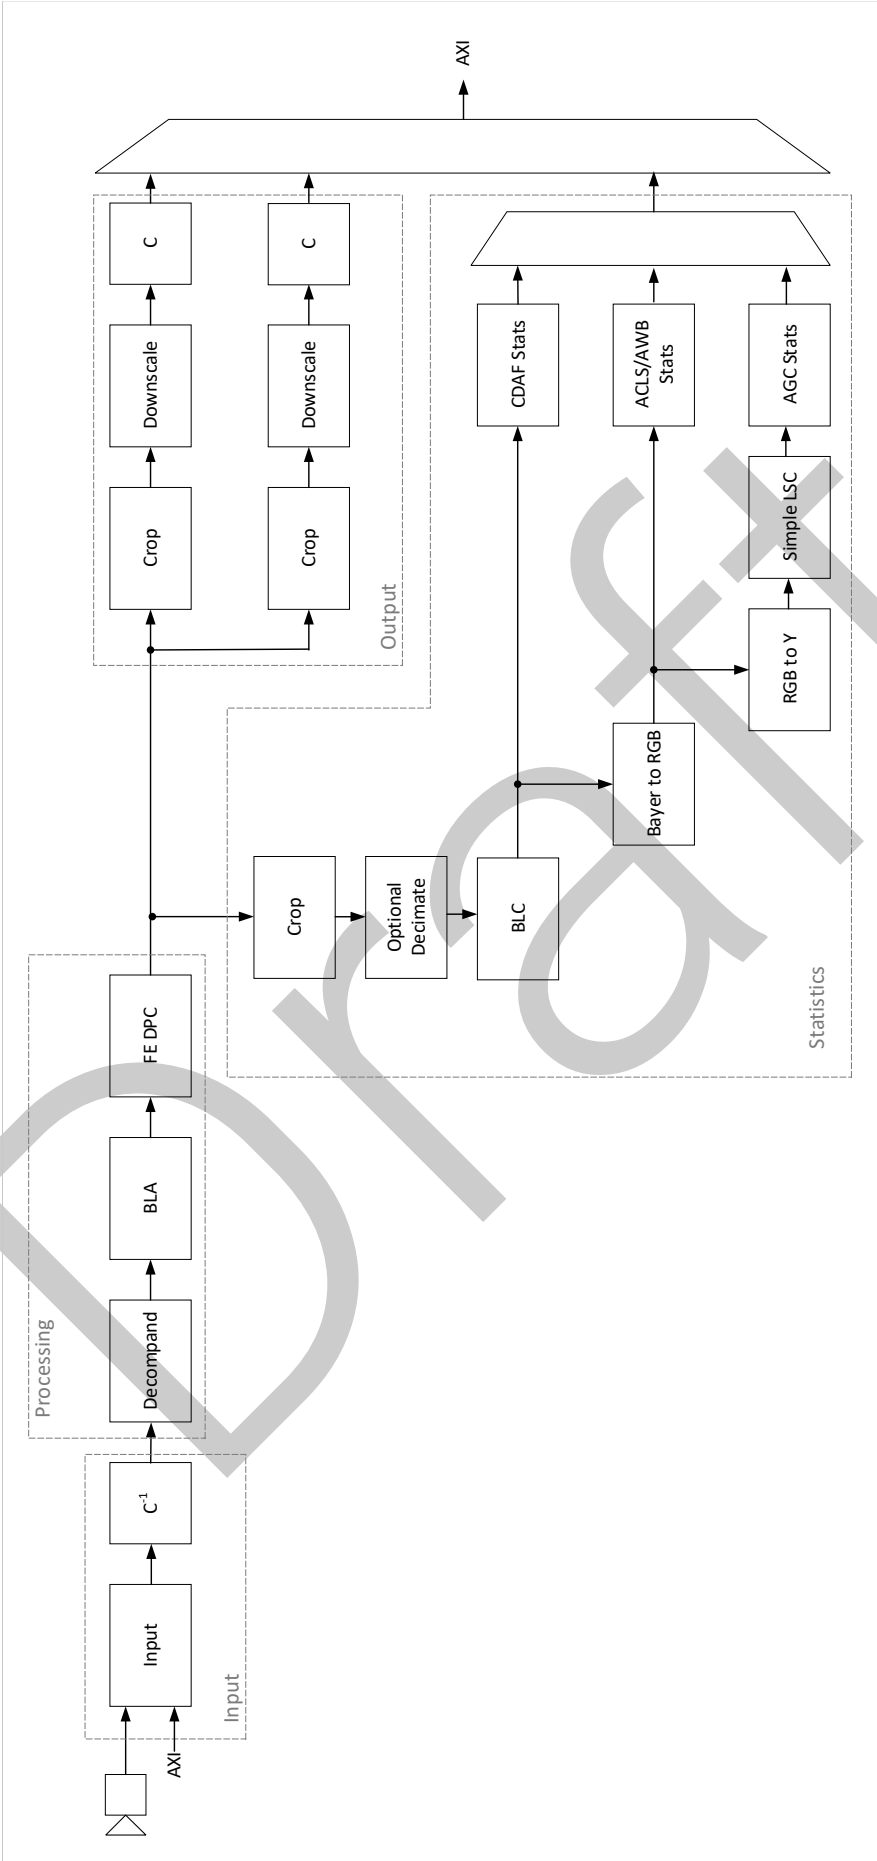

Figure 5: PiSP Front End clusters and blocks
The Front End consists of the *Input Cluster*, the *Processing Cluster*, the *Statistics Cluster* and the *Output Cluster*, as shown in figure 5.
- *Processing Configuration Registers* (or just *Configuration Registers*) which control what processing the PiSP Front End performs on the pixels once it is running. These registers are further grouped according to the functional blocks shown in figure 5.